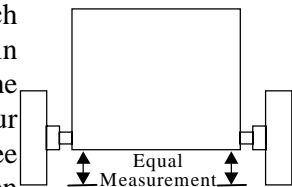

FIGURE 17
2. **Set the Axle Height** - Set the axle height by placing the car on a flat surface such as a kitchen countertop. Use a ruler to measure the distance from the countertop to the bottom edge of each corner of the car. Adjust each axle up or down in the axle slot until the four corners of the car are the same height above the counter top and all four wheels touch the surface at the same time (see Figures 17). If one of the front wheels has been purposely raised, then of course only three wheels will touch the surface.